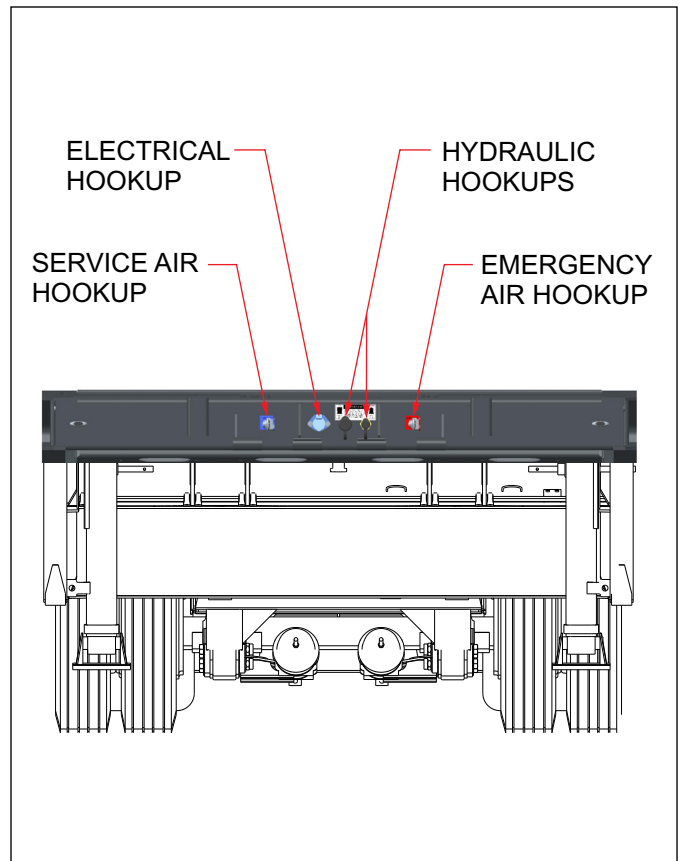

Figure 3-3: Service Hookups
3. Connect the service and emergency air hoses of the towing vehicle to their respective gladhand on the front of the semitrailer; red emergency line to the gladhand with the "EMERGENCY" tag, and the blue service line to the gladhand with the "SERVICE" tag (**See Figure 3-3.**) Chock the semitrailer wheels before activating the semitrailer air supply valve in the towing vehicle. Set the parking brakes.
1. Connect the towing vehicle 7-pole electrical plug to the electrical receptacle on the front of the semitrailer (See Figure 3-3.)